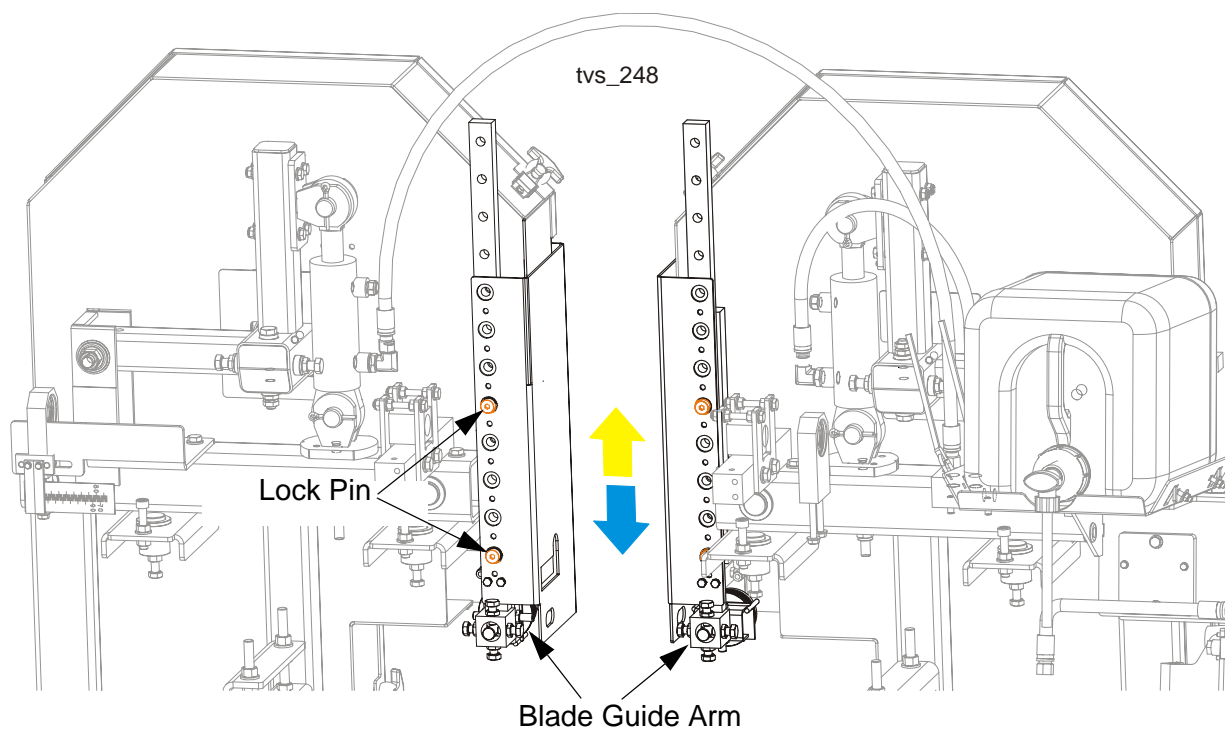

FIG. 2-5
**See Figure 2-5.** To move the blade guide arm, unlock the safety pin and slide the arm up or down. Lock the lock pin.
Turn the Chain Start switch (shown in Figure 2-5) right to start spinning the chain forward. Turn the switch left to start spinning the chain backward. Press the Stop button to stop the chain.